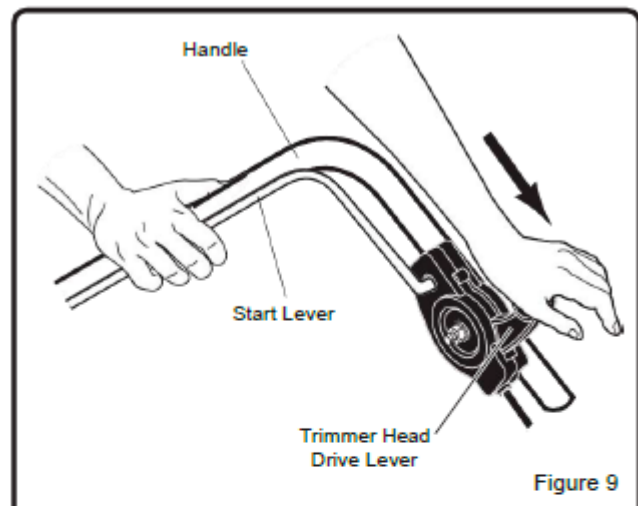

Figure 9
1. Hold the starter lever against the handle and move the trimmer handle forward to engage the trimmer head. (See Figure 9).